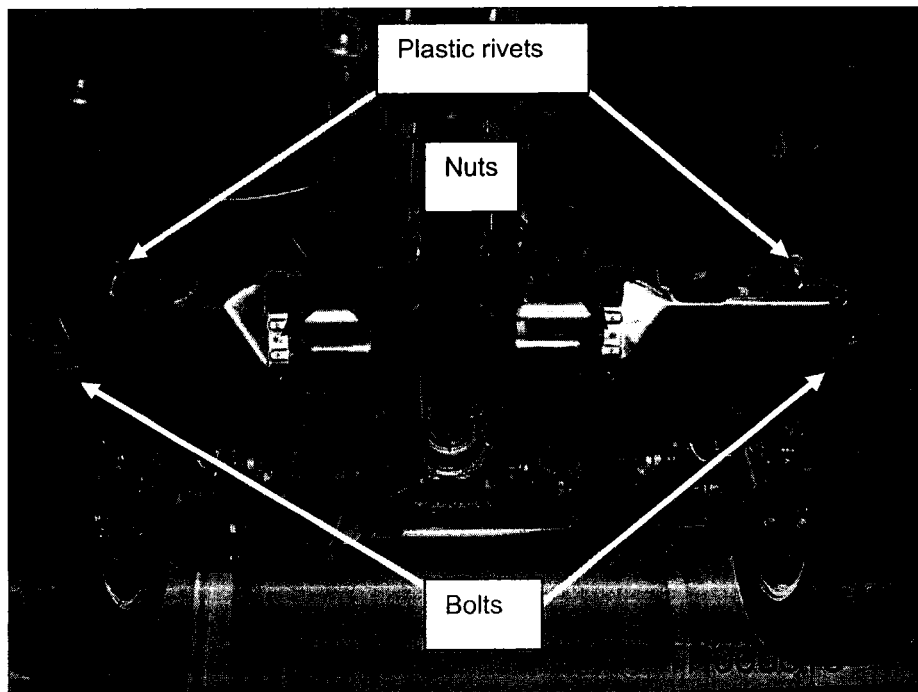

Figure 6
- a. Loosely install the nuts and bolts (see Figure 6). This will allow movement of the shield for inserting the black plastic rivets (next step).